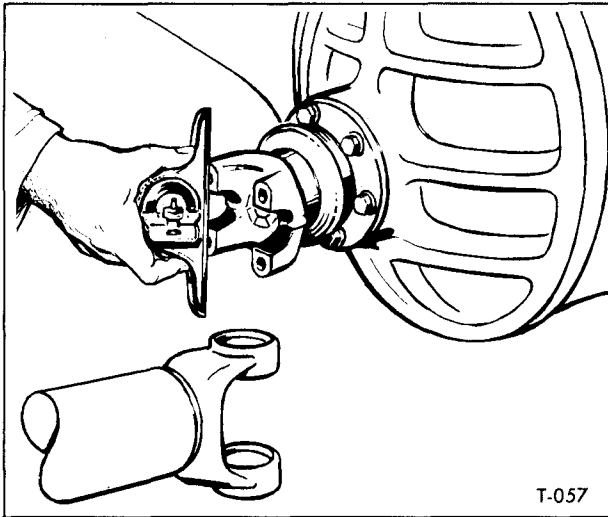

Figure 8—Checking Pinion Angles
7. On rear axles that do not have a machined surface on the differential carrier housing it will be necessary to remove the interaxle shaft. Rotate the rear pinion yoke on the forward rear axle into a vertical position. Clean the four machined ends of the yoke of dirt, nicks, and burrs. Place the protractor across ends of the yoke on either side in as close as possible to a vertical position as shown in figure 8 and read the angle. Pinion angle should be the same as the engine and auxiliary transmission angles. Adjustment can be made, if necessary, by using shims at upper
9. Check rearward rear axle pinion angle as described in Step 6 and shown in View F, figure 7, on rear axles which have a machined surface on the differential carrier housing. On rear axles not having a machined surface on the differential carrier housing, check rearward rear axle pinion angle as described in Step 7 and shown in figure 8.